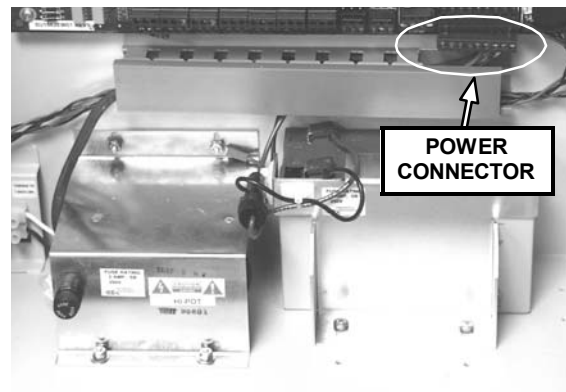

Figure 53 - Remove Power
2. Remove power from the Turbo Superterm. Inside the housing, remove the power connector from the bottom of the panel. (see Figure 53). Ensure that all power LED's are off.